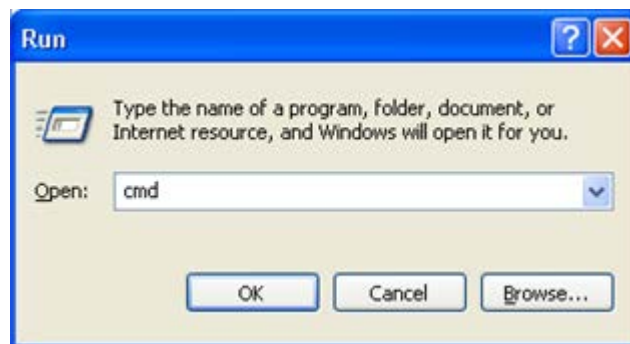

Figure 8-2: Run Window
4. Open a DOS window by selecting **Start > Run**, and typing "cmd" in the window that appears, as shown in Figure 8-2.